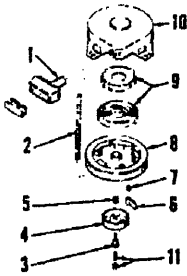
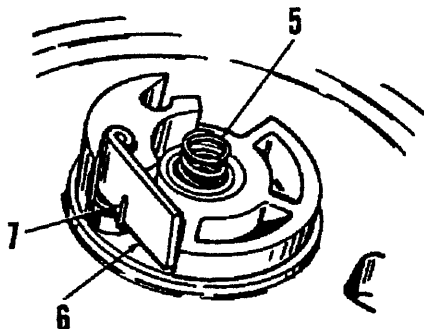
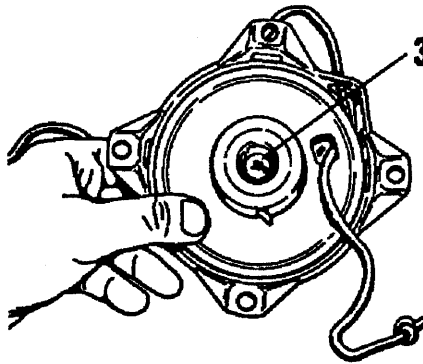

Fig. E2-26—Exploded view of starter. Refer to Fig. E2-27 for installation of parts (5, 6 & 7).
Fig. E2-27—When assembling, make certain that parts (5, 6 & 7) are assembled as shown. End of dog return spring (7) should pull dog in.
Fig. E2-28—Refer to text when removing or installing rope. Retainer screw (3) should be torqued to 45-55 in.-lbs. (5-6 N·m).
The rope for the recoil starter can be renewed without disassembling the starter. Remove the starter assembly from motor, pull rope out fully and hold pulley to prevent rewinding. Refer to Fig. E2-28. Remove old rope and install new rope, making certain that the inner knot is in pocket on underside of pulley. If the old rope was broken, preload the recoil spring by turning the pulley approximately 6 turns before installing new rope.
If the starter does not engage immediately when rope is pulled, make certain that retainer screw (3—Fig. E2-26) is tightened to 44-55 in.-lbs. (4.9-6.2 N·m) torque.
When assembling, grease spring (9) lightly then position spring and keeper (9) and pulley (8) in housing (10). Install brake spring (5), starter dog return spring (7) and starter dog (6) as shown in Fig. E2-27. Install retainer screw (3—Fig. E2-26) and tighten to 45-55 in.-lbs. (5-6.2 N·m) torque. Preload the recoil spring by turning the pulley approximately six turns counterclockwise before installing the rope. Refer to Fig. E2-28.